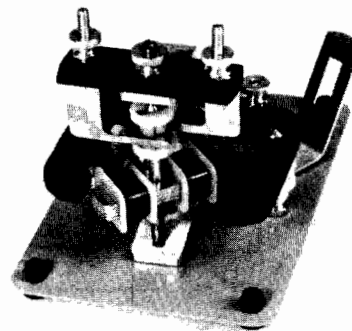

Fig. 7-3-1
2. Modify previous unit to prepare it for the experiment. Refer to assembled dc generator unit in Fig. 7-3-1.